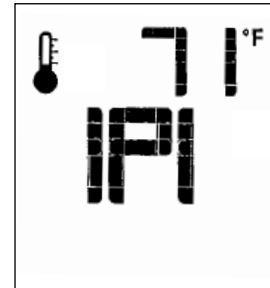

Fig. 8.9. IPI is default.
- With the transmitter in the OFF position, press the transmitter Mode key - **IPI is the default mode**. Press the UP arrow key to light the pilot and enter the 2-minute pilot Warm-up cycle. Fig. 8.9. When the pilot cycle is complete, the burner will ignite in at Low flame for an additional 2-minute cycle (LED flashing 4) before it will return to the last previous flame setting and accept further commands.